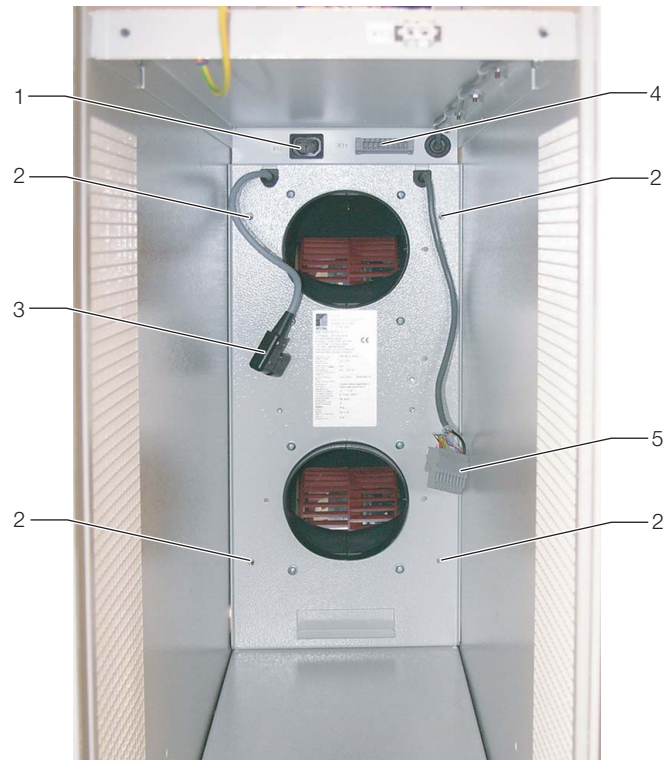

Fig. 34: Fan module in the module plug-in
- Fasten the fan module with 4 assembly screws (Fig. 34, Pos. 2).
- Plug in the connector for the power supply (Fig. 34, Pos. 1 and Pos. 3) and the connector for the control cable (Fig. 34, Pos. 4 and Pos. 5)